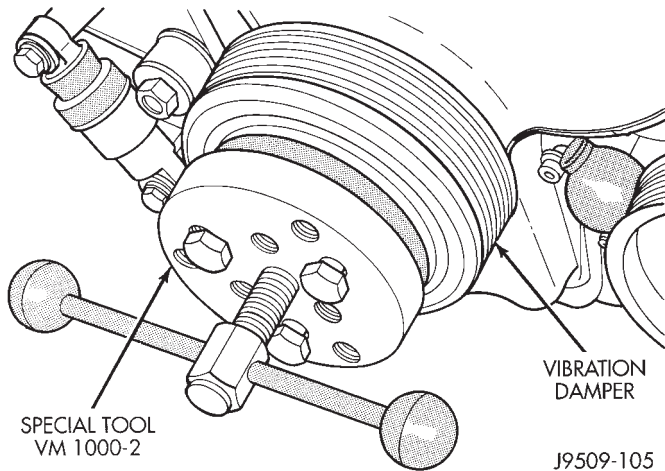

Fig. 27 Vibration Damper Removal With Tool VM-1000-2
- (4) Remove vibration damper nut.
- (5) Install tool VM-1000-2 to remove vibration damper (Fig. 27).